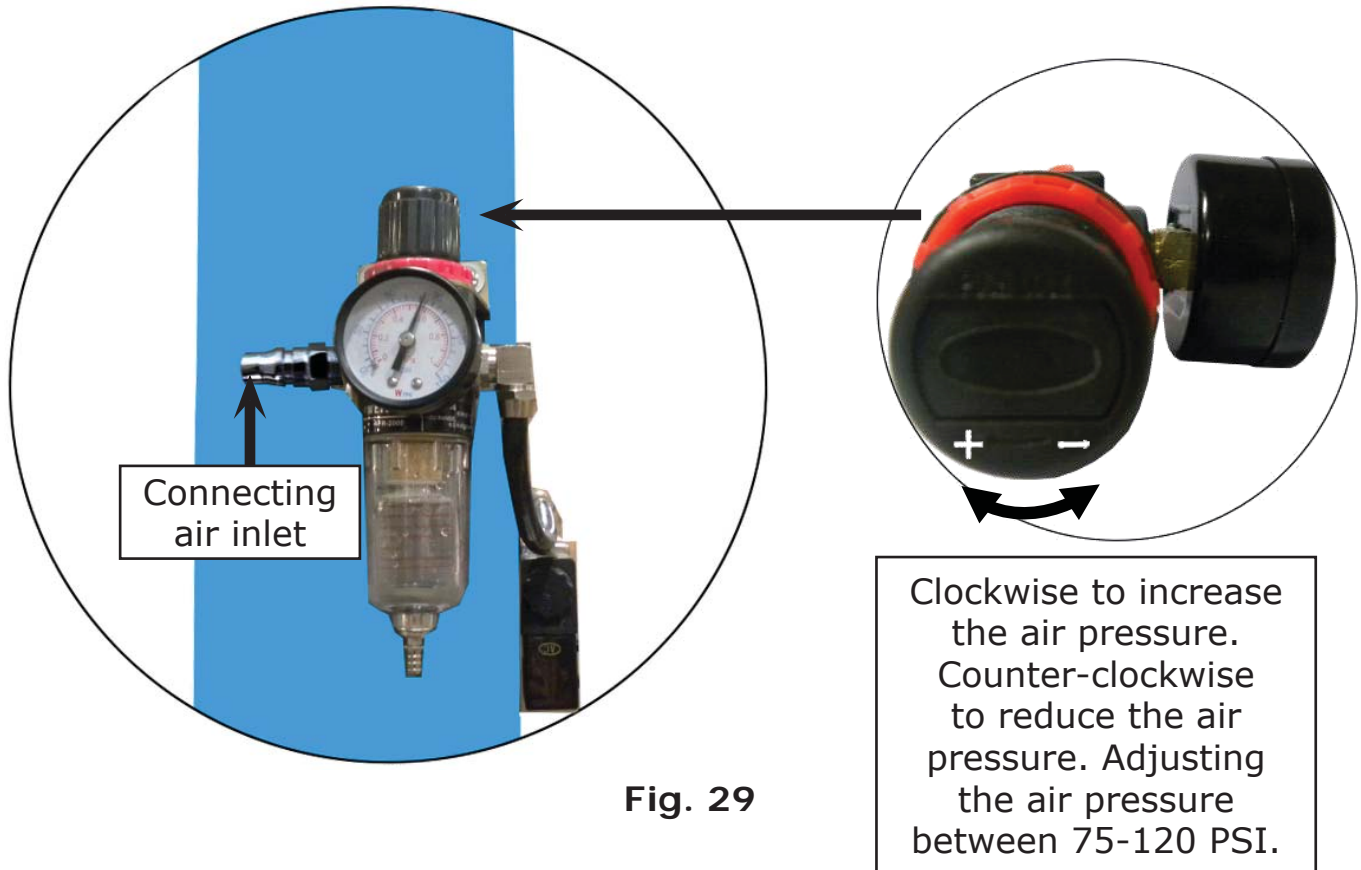

Fig. 29
5. Connect the air 1/4NPT air inlet (not supplied). Adjust the air pressure on the water separator regulator between 75-120 PSI (See Fig. 29).